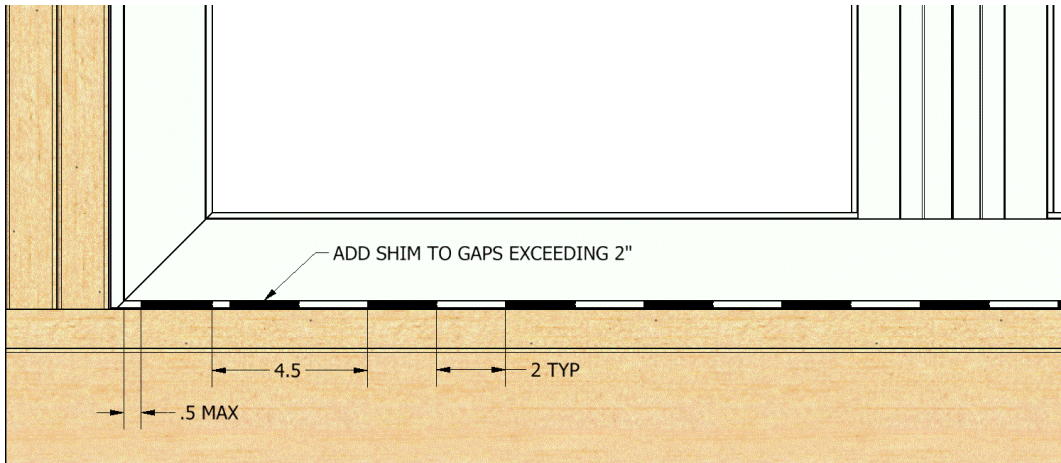

Figure 4 Sill View
- a) Sill shimming should only be used when the water proofing details require it or the sill is uneven or not level within 1/16". Fully supported sills without shims are preferred. However if you choose to use shims, we require the sill to be fully supported with no gaps exceeding two inches and shims within 1/2" from any welded corners. (See Figure 4)